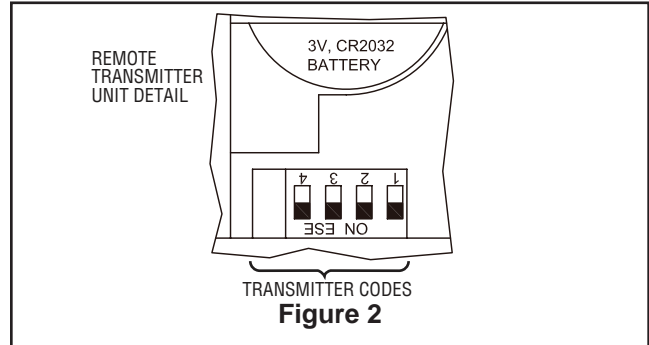

Figure 2
- 1. Securely attach the hanger bracket to the outlet box using the outlet box screws and washers supplied with the outlet box (Figure 2).
1. To set the transmitter code, remove battery cover by pressing firmly below arrow and sliding cover off. Slide code switches to your choice of up or down position. Factory setting is all up. Do not use this position. With a small screwdriver or ball point pen slide firmly up or down. Replace battery cover on the transmitter (Figure 2).